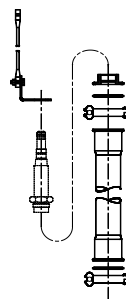

Figure 4
- Metal Flexible standoff - used when severe equipment vibration is a concern and (see Figure 4)